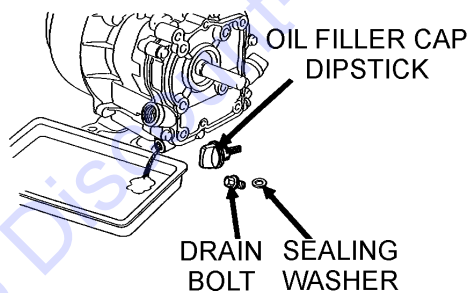

Figure 30. Engine Oil (Draining)
1. Drain the engine oil when the oil is **warm** as shown in Figure 30.